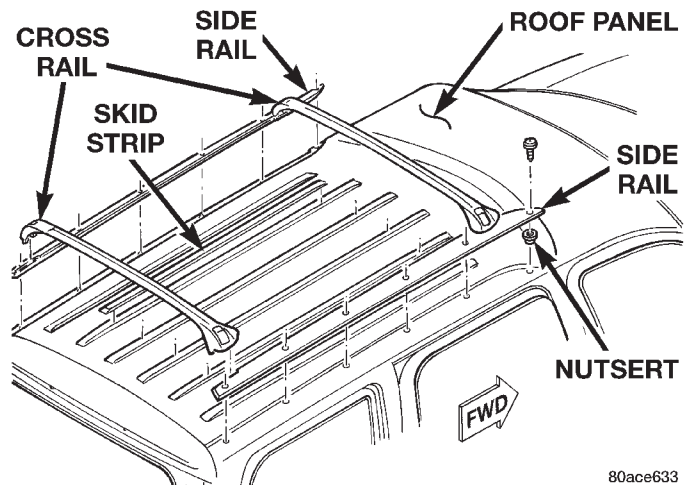

Fig. 79 Luggage Rack
- (1) Remove screws attaching side rail to roof panel (Fig. 79).
- (2) Separate luggage rack from vehicle.
- (4) Position luggage rack on roof.
- (5) Install screws attaching side rail to roof panel (Fig. 79).